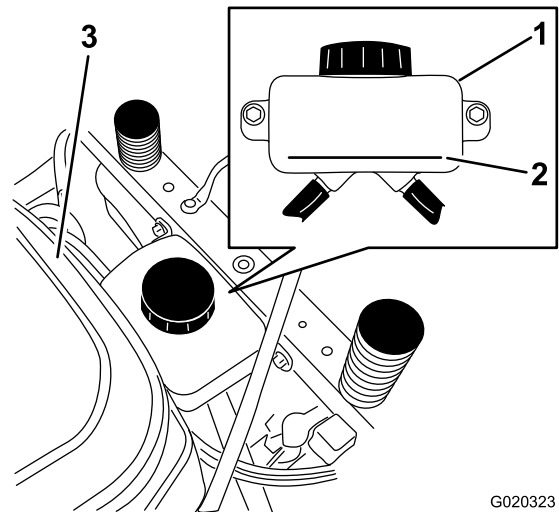

Figure 46
- A. Ensure that the vent plugs and reservoir cap are removed before adding the oil (Figure 46 and Figure 47).
7. Add oil through the expansion reservoir until it reaches the FULL COLD line on the expansion reservoir and install the cap for the reservoir (Figure 46).
6. Stop the engine and check the oil level in the expansion reservoir. Add the specified oil as until it reaches the FULL COLD line on the expansion reservoir (Figure 46).
8. Check the oil level in the expansion reservoir one last time. Add the specified oil as until it reaches the FULL COLD line on the expansion reservoir if necessary (Figure 46).